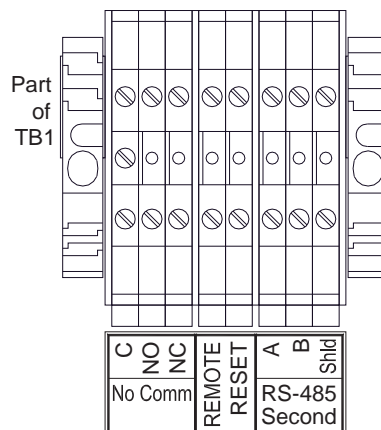
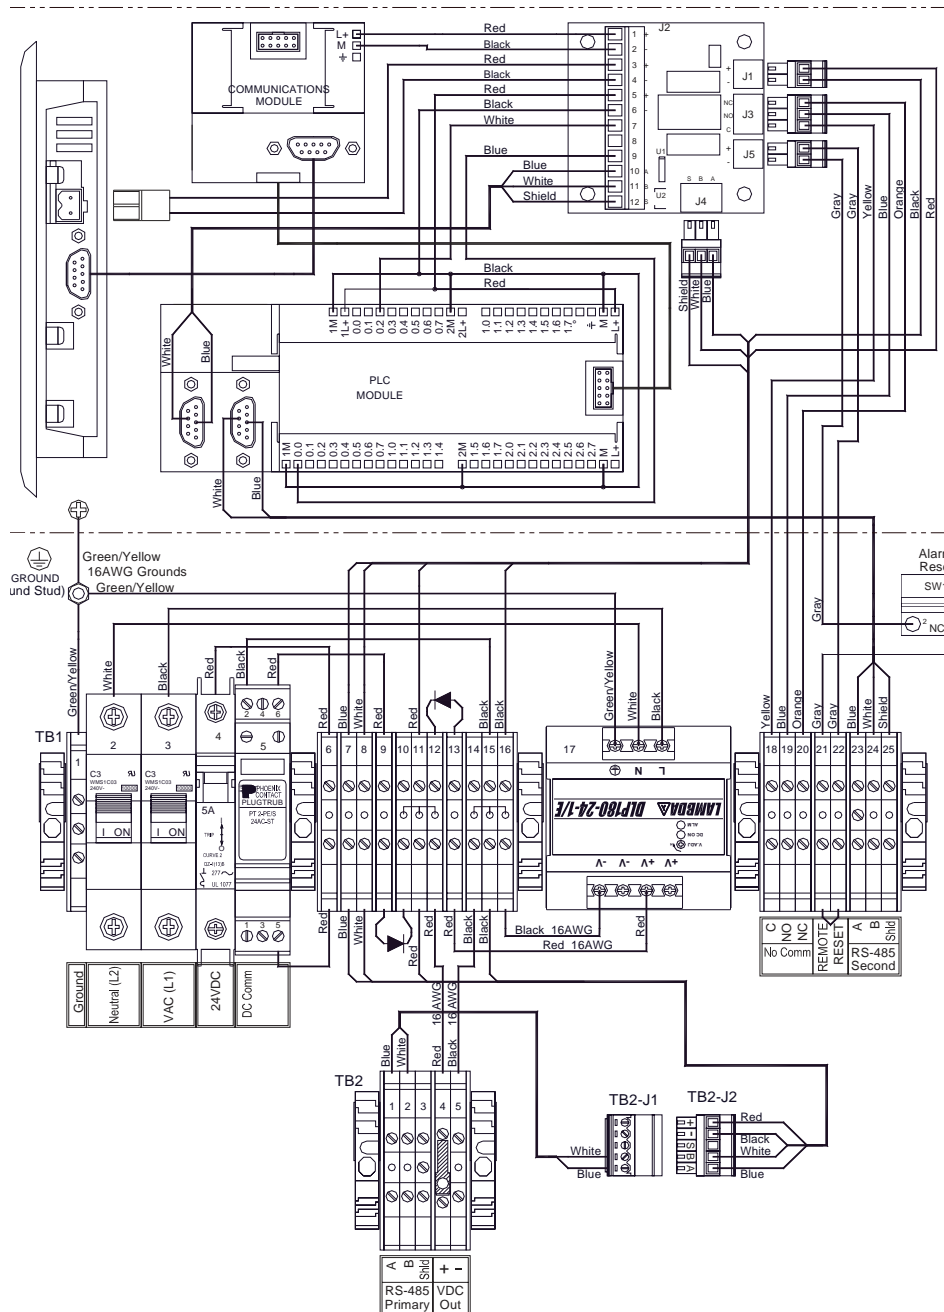
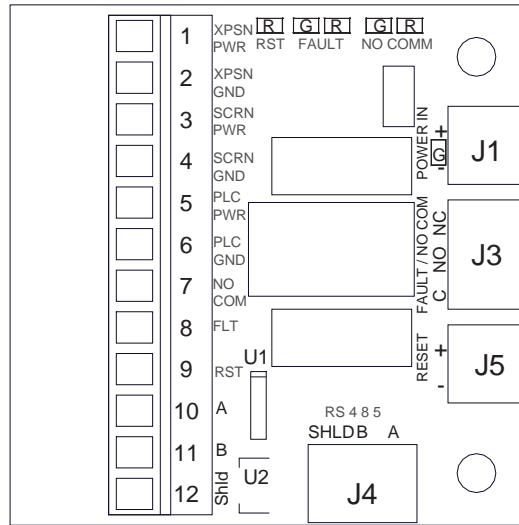

Figure 6 Interface Wiring
Figure 7 Interconnect Wiring Diagram
Figure 8 1600A Interface PCA
- The secondary serial RS-485 port from the controller is connected to a set of Terminal Blocks on the DIN Rail (Figure 6). The Terminal Blocks are labeled Secondary “A, B & Shld” and can be connected to a PLC, PC/HMI, DCS, or other Modbus™ master polling serial communications device, refer to Secondary Modbus™ Port Section 5.5.
The 1600A Interface Board Figure 8 is connected to a set of Terminal Blocks on the DIN Rail (Figure 6 and Figure 7.) The Terminal Blocks are labeled “NO COMM” “C”, “NO” and “NC”. The Interface PCA, mounted on the back of the Display Panel, will de-energize the No Comm/Fault relay in the event there is a Communication Fault with any activated device. A ‘No Communication Fault’ condition will create a ‘short’ between the ‘Common’ and ‘Normally Closed’ contacts, and create an open between the ‘Normally Open’ and ‘Common’ relay contacts. This is required for fail-safe operation. There is a two-minute delay before any active device will trigger a no communication condition.